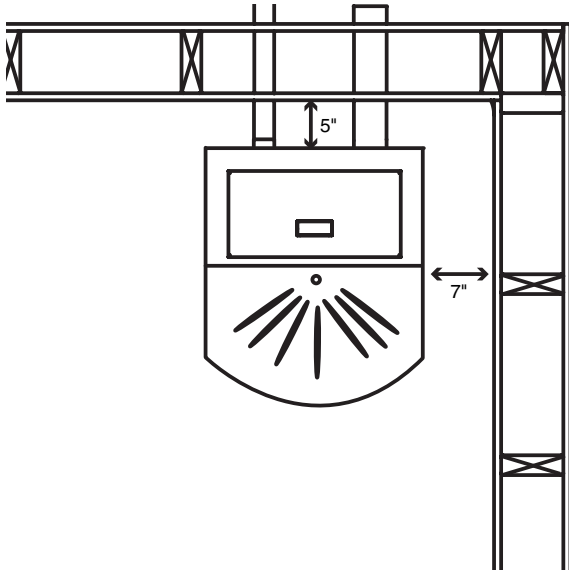

Figure 3: Straight Installation Through Wall
**NOTE:** These are minimum clearances to combustible walls established by the ASTM testing lab. (SEE FIGURES 3, 4, 5, & 6.)